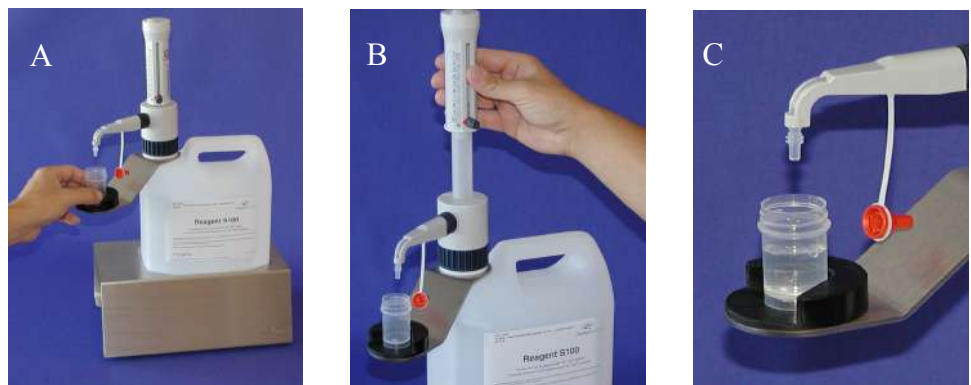

Figure 2. (A) Placing the sample cup in the cup holder; (B) Dispensing 10 ml of Reagent S100; (C) Sample cup with lyzate mixture
4. Place the sample cup in the cup-holder and dispense **10,00 ml** of Reagent S100 into the cup using the dispenser. Dispense the reagent directly onto the semen sample at the bottom of the cup. Use a firm, consistent plunger pressure, so that the plunger moves smoothly. (*cf. figure 2*)